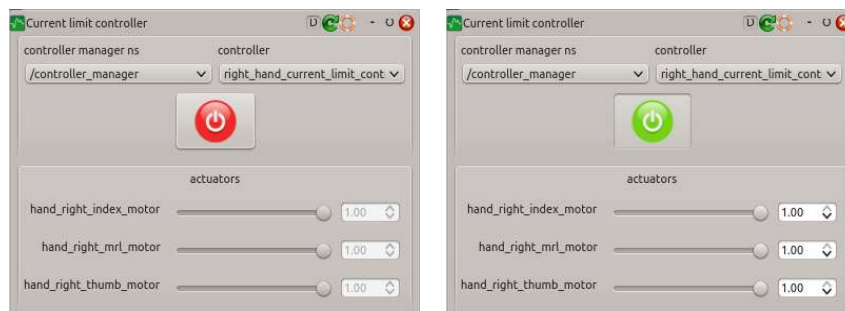

Figure 118: Detail of the joint control panel in monitor (left) and control (right) modes.
- (a) On the bottom-left of the GUI is the panel for controlling actuator current limits, named `Current limit controller`, detailed in Figure 118. Activate the hand controller by selecting `/controller_manager` and `right_hand_current_limit_controller` on the panel's combo boxes, as shown below.